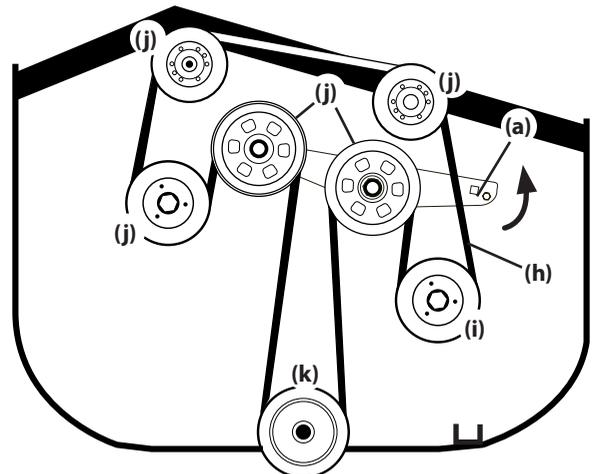

Figure 42
5. Using a 1/2" (12.7 mm) drive in the idler pulley bracket (g), turn the wrench towards the front of the mower and slide the PTO drive belt (h) off the right spindle pulley (i) (Figure 42).